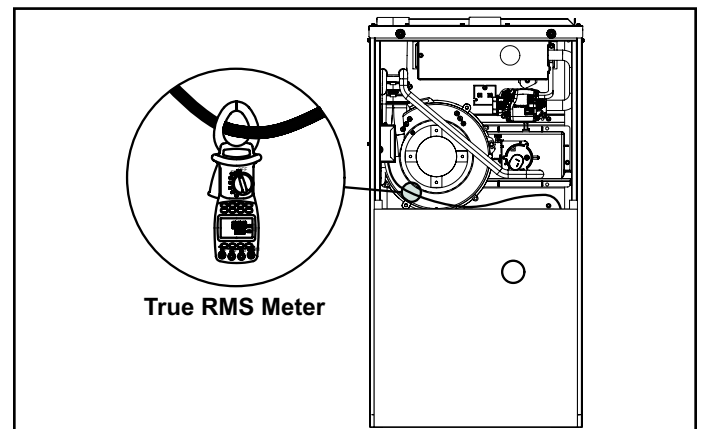

Figure 59. Check Motor Amp Draw
3. Check amp-draw using a true RMS meter on the blower motor with blower access panel in place. See Figure 59.